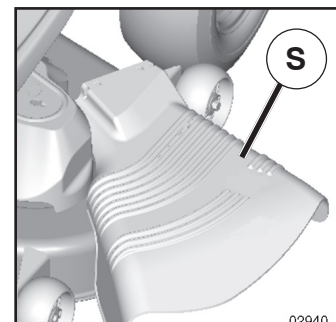

Fig. 25
CAUTION: Do not operate the mower without either the entire grass catcher, on mowers so equipped, or the deflector shield (S) in place (See Fig. 25).